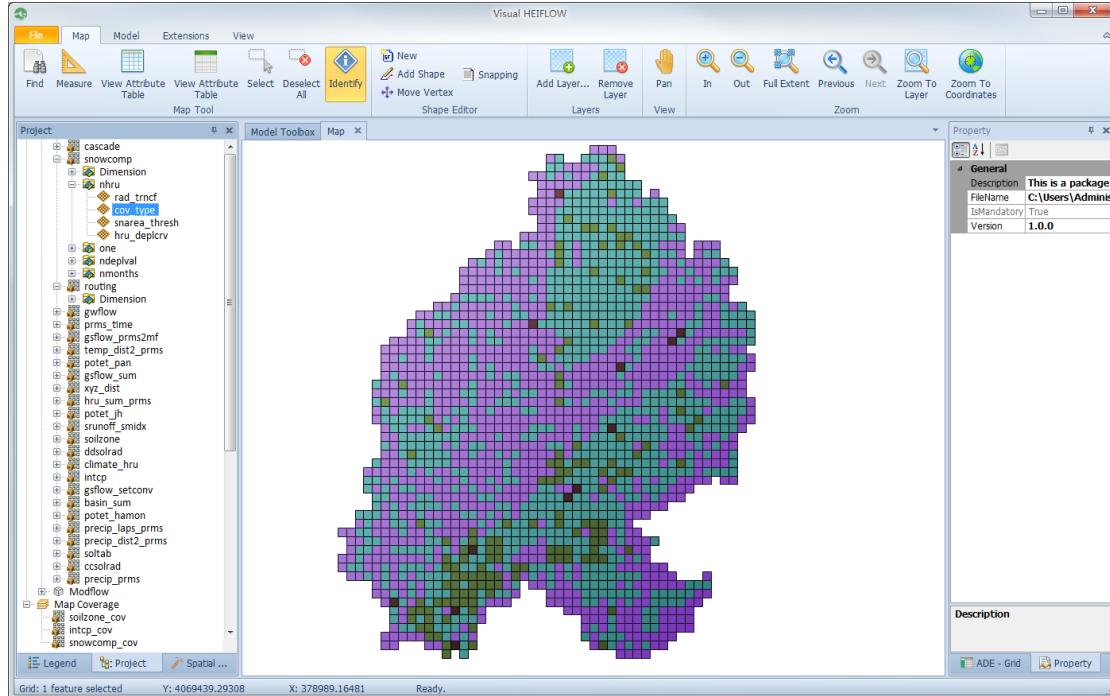

Figure 5-14. Spatial distribution of the cov_type parameter
17) Navigate to the cov_type parameter, show its map view (Figure 5-14):